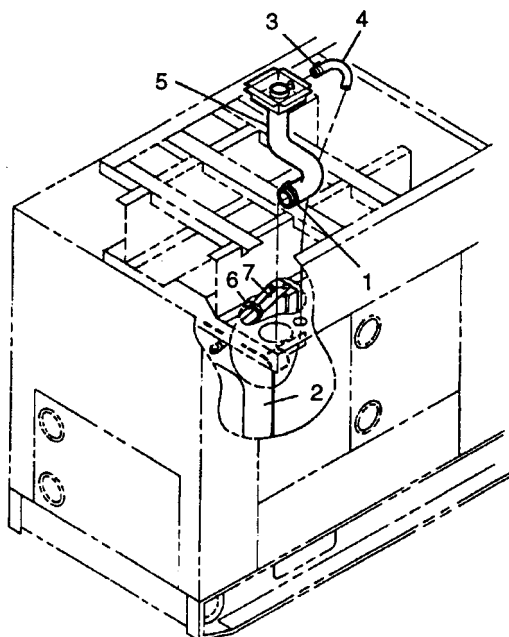

FIGURE 3-2. Filler Hose and Panel Assembly
- g. Loosen clamp (1, FIGURE 3-2) at radiator (2).
h. Loosen clamp (3) and disconnect overflow hose (4) from filler hose and panel assembly (5).
i. Remove filler hose and panel assembly (5) from generator set.
j. Cut wire ties (6) securing overflow hose (4) to upper radiator supports (7).